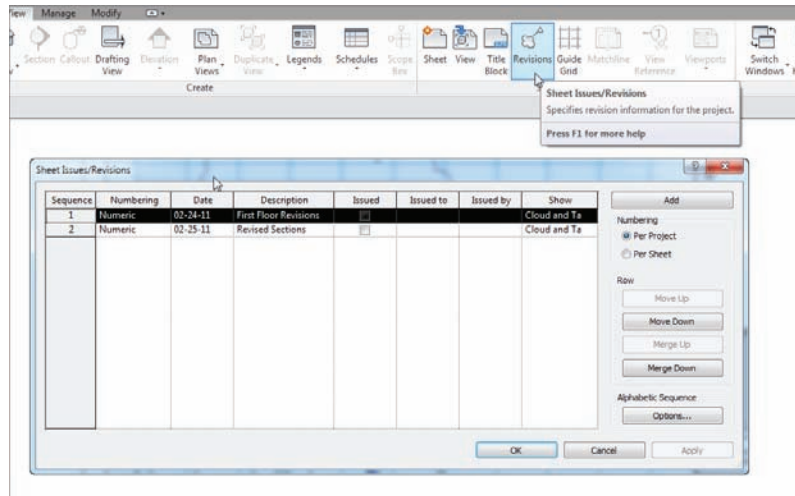

FIGURE 14.20 The Sheet Issues/Revisions dialog
1. On the View tab, click the Revisions button on the Sheet Composition panel, as shown in Figure 14.20.
4. Click the Add button (see Figure 14.20).
6. For the description, enter Revised Sections (see Figure 14.20).